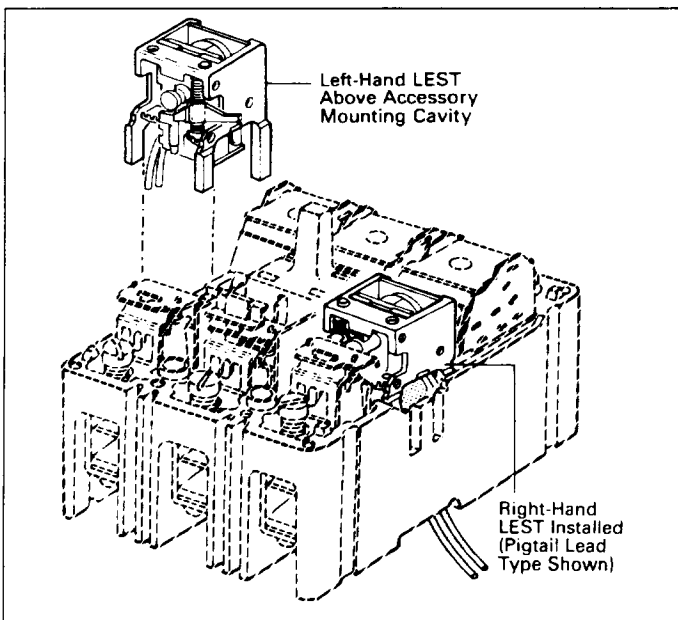

Fig. 2-3. LEST Installation Positions
- 2-6. Insert LEST as described in the following steps (Fig. 2-3):